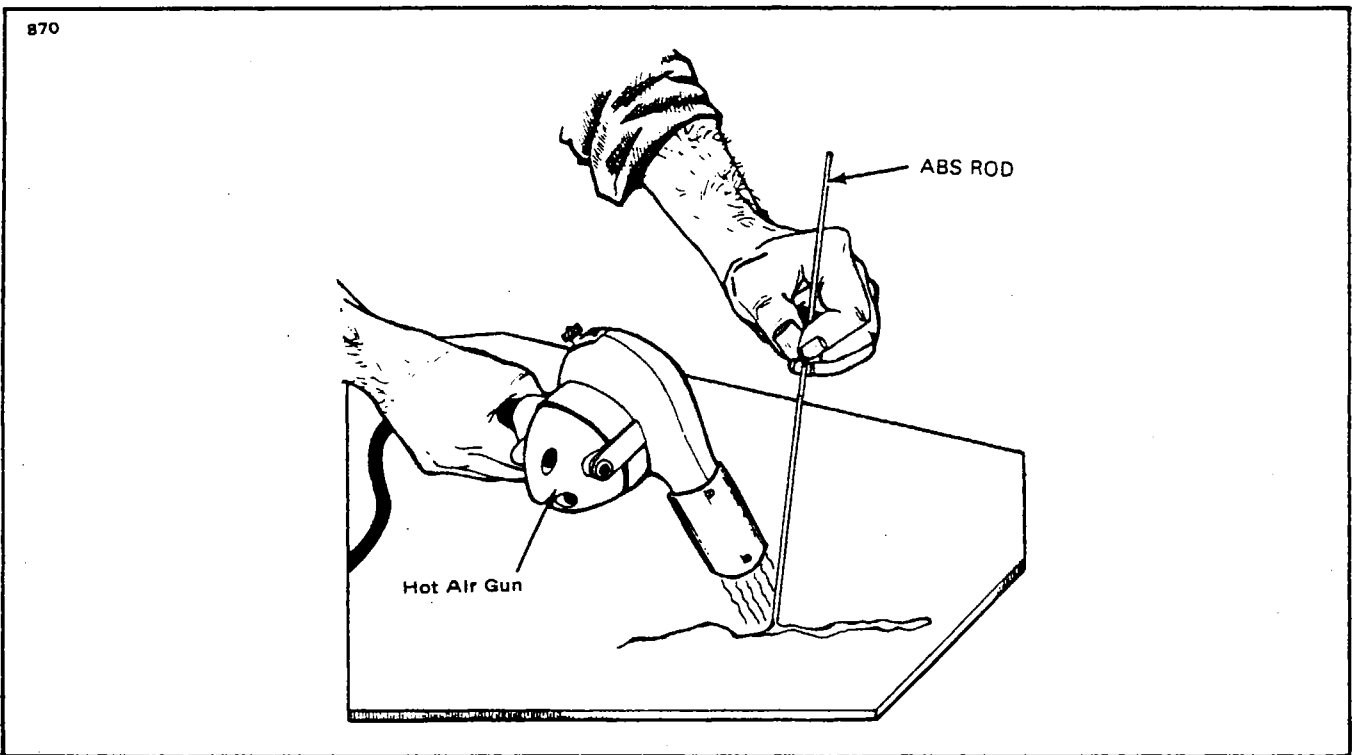

Figure 4-34. Welding Repair Method
10. This welding method requires a hot air gun and ABS rods. To weld, the gun should be held to direct the flow of hot air into the fusion (repair) zone, heating the damaged area and rod simultaneously. The gun should be moved continuously in a fanning motion to prevent discoloration of the material. Pressure must be maintained on the rod to insure good adhesion. (Refer to Figure 4-34.)